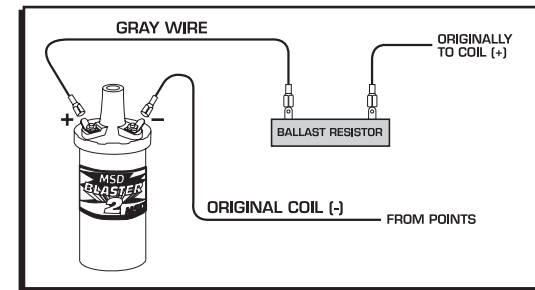
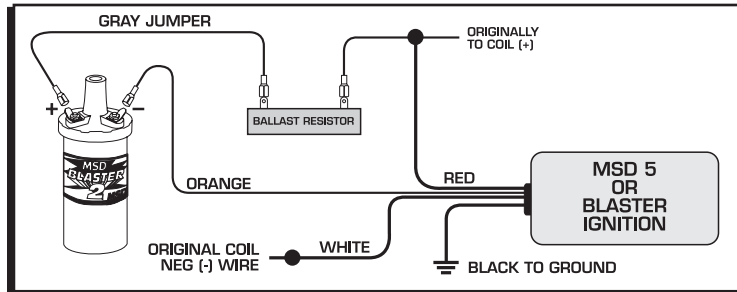

Figure 1 Wiring to the Stock Ignition.
Figure 2 Wiring to an MSD Blaster Ignition or MSD 5.
If you are installing the Blaster Coil with the stock points ignition (Figure 1), MSD Blaster Ignition or an MSD 5 Ignition Control (Figure 2), the supplied 0.8 ohm ballast resistor must be installed on the coil positive (+) wire.
1. Install the original negative (-) coil wire (Figure 1).